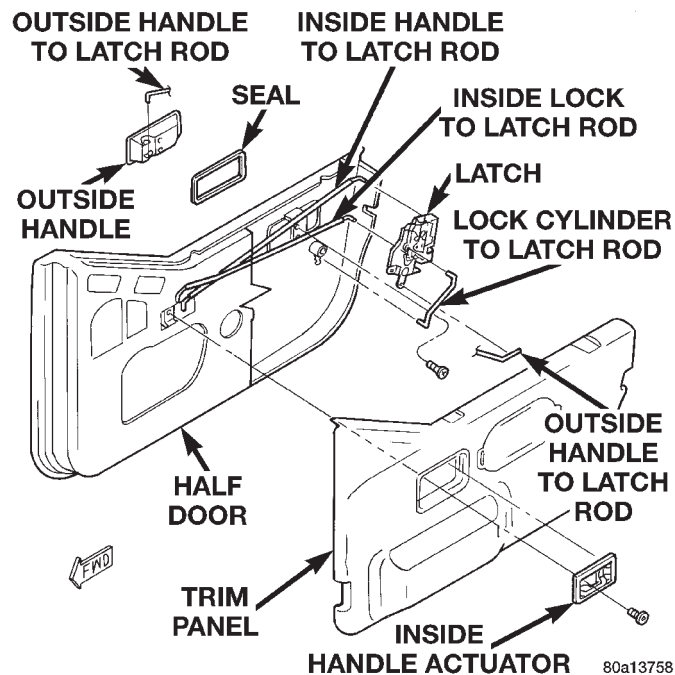

Fig. 36 Outside Handle
- (1) Remove trim panel.
- (2) Disconnect the outside handle to latch rod (Fig. 36).
- (3) Remove screws attaching the outside handle to the door.
- (4) Separate the outside handle and seal from the door.